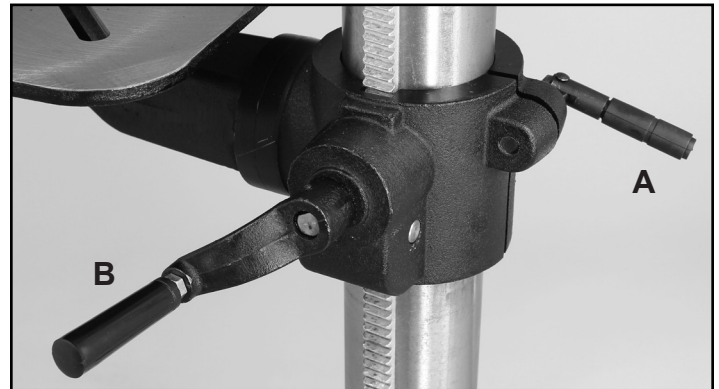

FIG. 13
1. *TO RAISE OR LOWER THE TABLE* along the column, the Locking Handle (#9) must be loosened. FIG. 13, A.